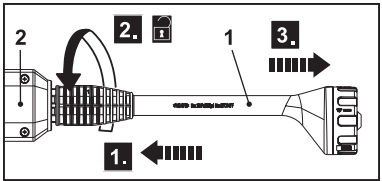

Fig. 2
- Press the 5 in 1 lance (1) towards the spray gun (2) (Fig. 2, step 1) and turn it anti-clockwise (step 2) to unlock and remove it (step 3).